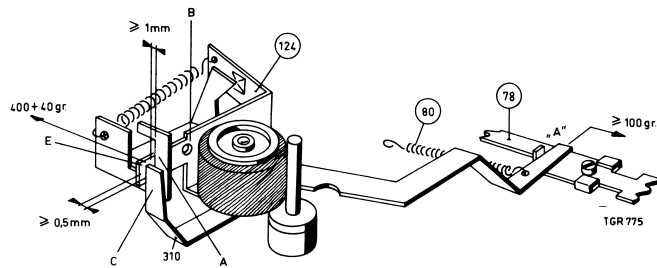

Fig. 9
Adjusting the pressure-roller unit, Fig. 9
Stand-by bracket spring, item 80, in stop position still should have a residual force of at least 100 gr., measured at point B. If less than 100 gr., replace the spring, Fig. 9